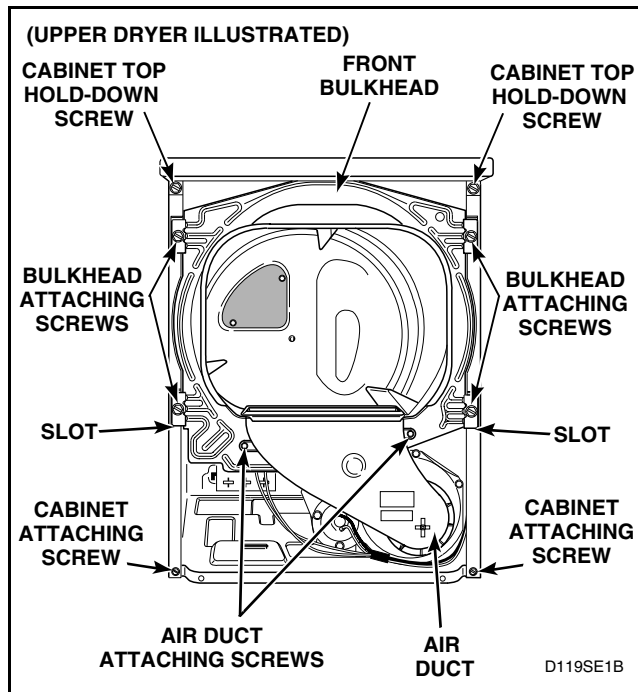

Figure 45
- f. Remove four screws holding bulkhead to front flange of cabinet. Refer to *Figure 45*. Lift complete bulkhead assembly out of slots in cabinet.
- Remove four screws holding bulkhead to front flange of cabinet and lift complete bulkhead assembly out of slots in cabinet. Refer to *Figure 45*.
- f. Remove four screws holding bulkhead to front flange of cabinet and lift complete bulkhead assembly out of slots in cabinet. Refer to *Figure 45*.
- g. Loosen two cabinet top hold-down screw. Refer to *Figure 45*.
Refer to *Figure 45*.
- g. Remove four screws holding bulkhead to front flange of cabinet and lift complete bulkhead assembly out of slots in cabinet. Refer to *Figure 45*.